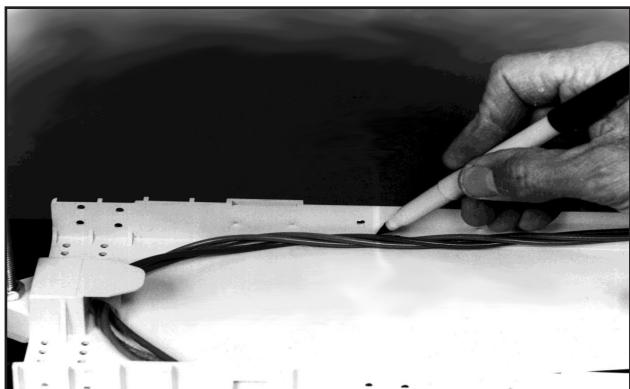

FIGURE 2- MARK THE FIBERS FOR BOTTOM CABLE ENTRY
- 6.05** Mark fibers at the back wall centerline of the Transition Assembly as shown in Figure 2.